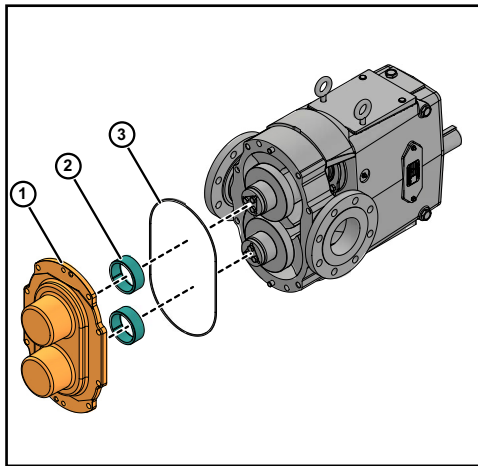

Figure 99 - Install the O-ring
4. Press fit the bushing (2) into the cover hub and place the O-ring (3) into the cover groove, as shown in Figure 99.